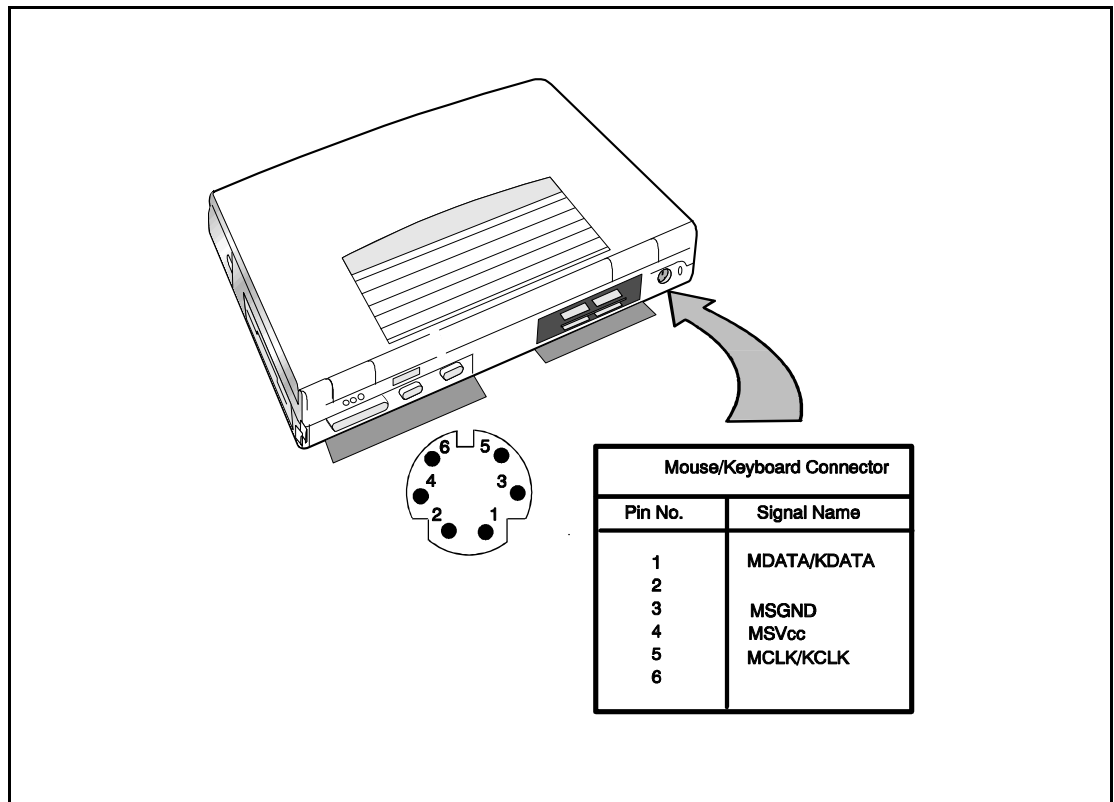

Figure 2-2 PS/2 Port Assignments/Pinouts
An optional numeric keyboard can be attached to the notebook via the notebook's PS/2 connector (refer to Figure 2-2).
As shown in Figure 2-2, the notebook has one external PS/2 port on the rear of the Notebook for installing a PS/2 compatible device (keyboard, mouse, etc.). Additional PS/2 devices may be installed using the Port Expander option. Pinouts for the PS/2 port on the rear of the Notebook are also provided in Figure 2-2.
2. Locate the external PS/2 port at the rear of the notebook (refer to Figure 2-2).